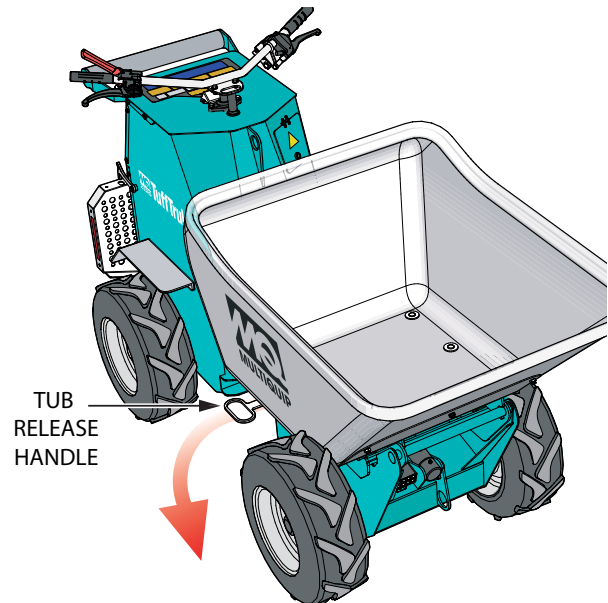

Figure 30. Releasing Tub (Unlock)
1. Pull out tub lock/release handle (Figure 30).